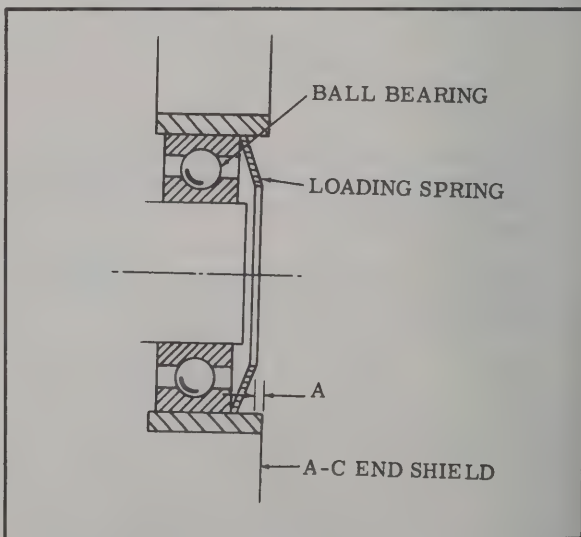

Figure 9-3. Measuring Load Spring Deflection
e. Work the AC end shield subassembly (64) over the shaft of the armature and onto the stator (67). Tap the shield lightly with a fiber mallet to seat.
f. Install the armature assembly (66) in the stator (67) from the AC end. Work the DC end shield in position over the bearing (37) and onto the stator (67). Tap the end shield with a fiber mallet to fully seat it. Position the external bearing plate (17) over armature shaft and the DC shield (36). Install four screws (18) with lock washers (19) through the bearing plate (17) end shield (36) and into the internal bearing plate (38). Tighten and lock wire the screws (18).
g. Install thru-bolt screws (22) and nuts (23) at AC end of unit. Torque thru bolts evenly 40 to 50 IN. LB at room temperature.
h. Place loading spring (42) on the AC end of the armature shaft and measure the "A" distance as indicated in figure 9-3. Add 0.010 to 0.015 inch to the "A" reading to obtain the required shim thickness. Remove the loading spring (fig. 4-6, ref. 42) and add shim washers; replace loading spring. Position shim washers (41) and bearing plate (39) and fasten in place with two screws (40).